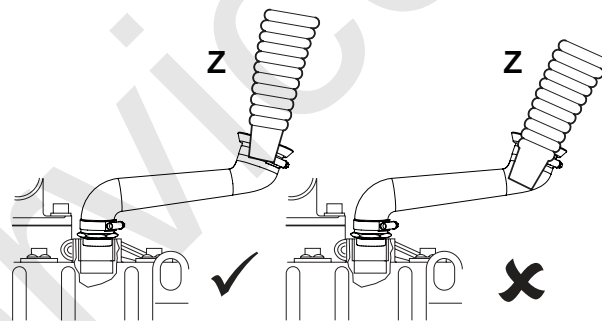

Fig 83.
Do not insert the container neck Z completely into the remote filler hole. → Fig 83. (□ 223).
- 4 Fill the engine with new oil through the filler. DO NOT insert the container neck Z completely into the filler hole. → Fig 83. \(□ 223\).